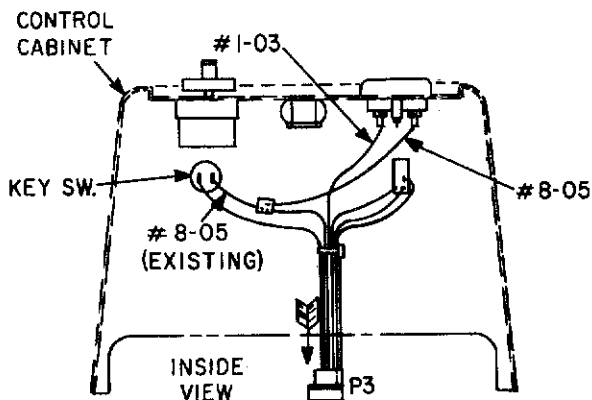

Figure 2
2. Disconnect plug P3 from jack J3 which joins the control cabinet wiring to the control panel wiring. See Figure 2.
sert the free end of wire 8-05 (just installed) to the stop in the hinged side of the self-stripping U-connector while the key switch wire 8-05 lays in the other groove of the connector. Squeeze the connector metal clip with pliers before closing the cover. Close cover around the connector until it latches. See Figure 2 and 5. Avoid installation in low temperatures, as the U-connector may crack on sudden closure.